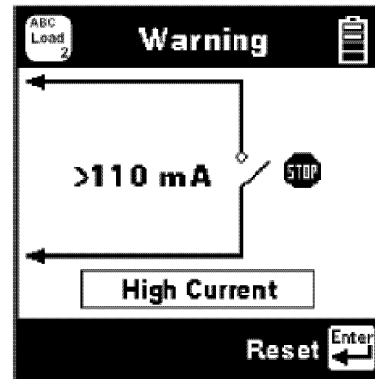

Figure 4. AST900 High Current Warning Display
26. **900AST HIGH CURRENT WARNING** (See Figure 4).
a. If input current in the load is greater than 110 mA, the following current Warning is displayed (see Figure 4).